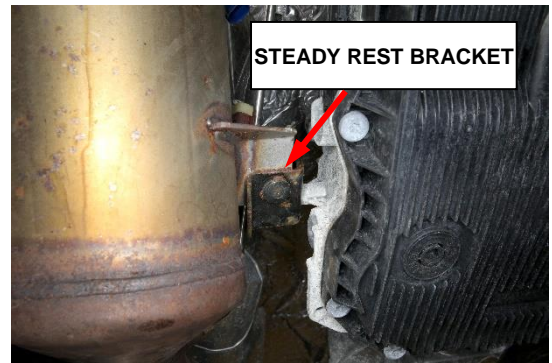

Figure 16 – Rear Steady Rest Bracket
35. Remove the nut retaining the rear DPF steady rest bracket to the transmission (Figure 16).